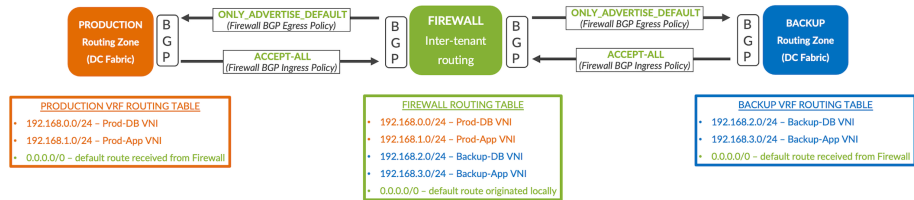

Figure 6.11 *Firewall Ingress and Egress BGP Policies with Routing Table Outcome*
- The ONLY_ADVERTISE_DEFAULT policy is meant to advertise only the default route, which is artificially generated on the firewall, to all fabric tenant VRFs and it will be applied on the OUTBOUND direction to all BGP sessions with the border leafs. This method is an easy way of providing a routing path out of the fabric for each tenant and attracting all inter-tenant traffic to the firewall. See Figure 6.11.